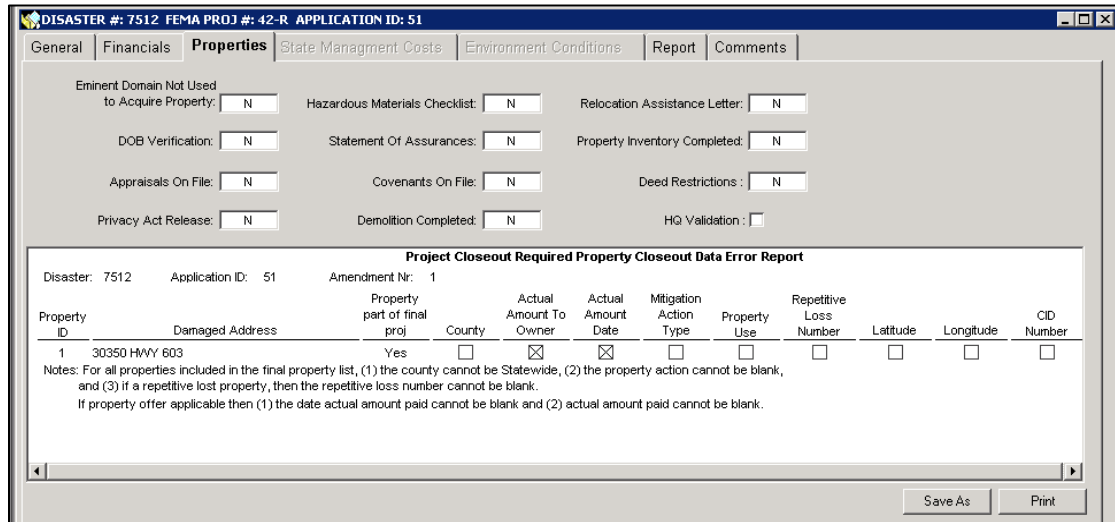

Figure 12-16: Mitigation >Projects >Closeout >Properties Tab
1. Click the **Properties** tab (Figure 12-16). This tab is active only if properties are included in the project.
3. In the bottom part of the **Properties** tab, review the Project Closeout Required Property Closeout Data Error Report (See figure 12-16 above).